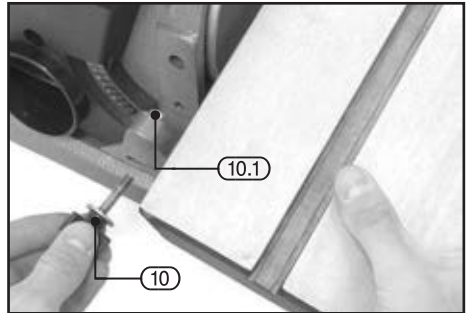

FIG.2
8.2 INSTALLING WORK TABLE - FIG. 2